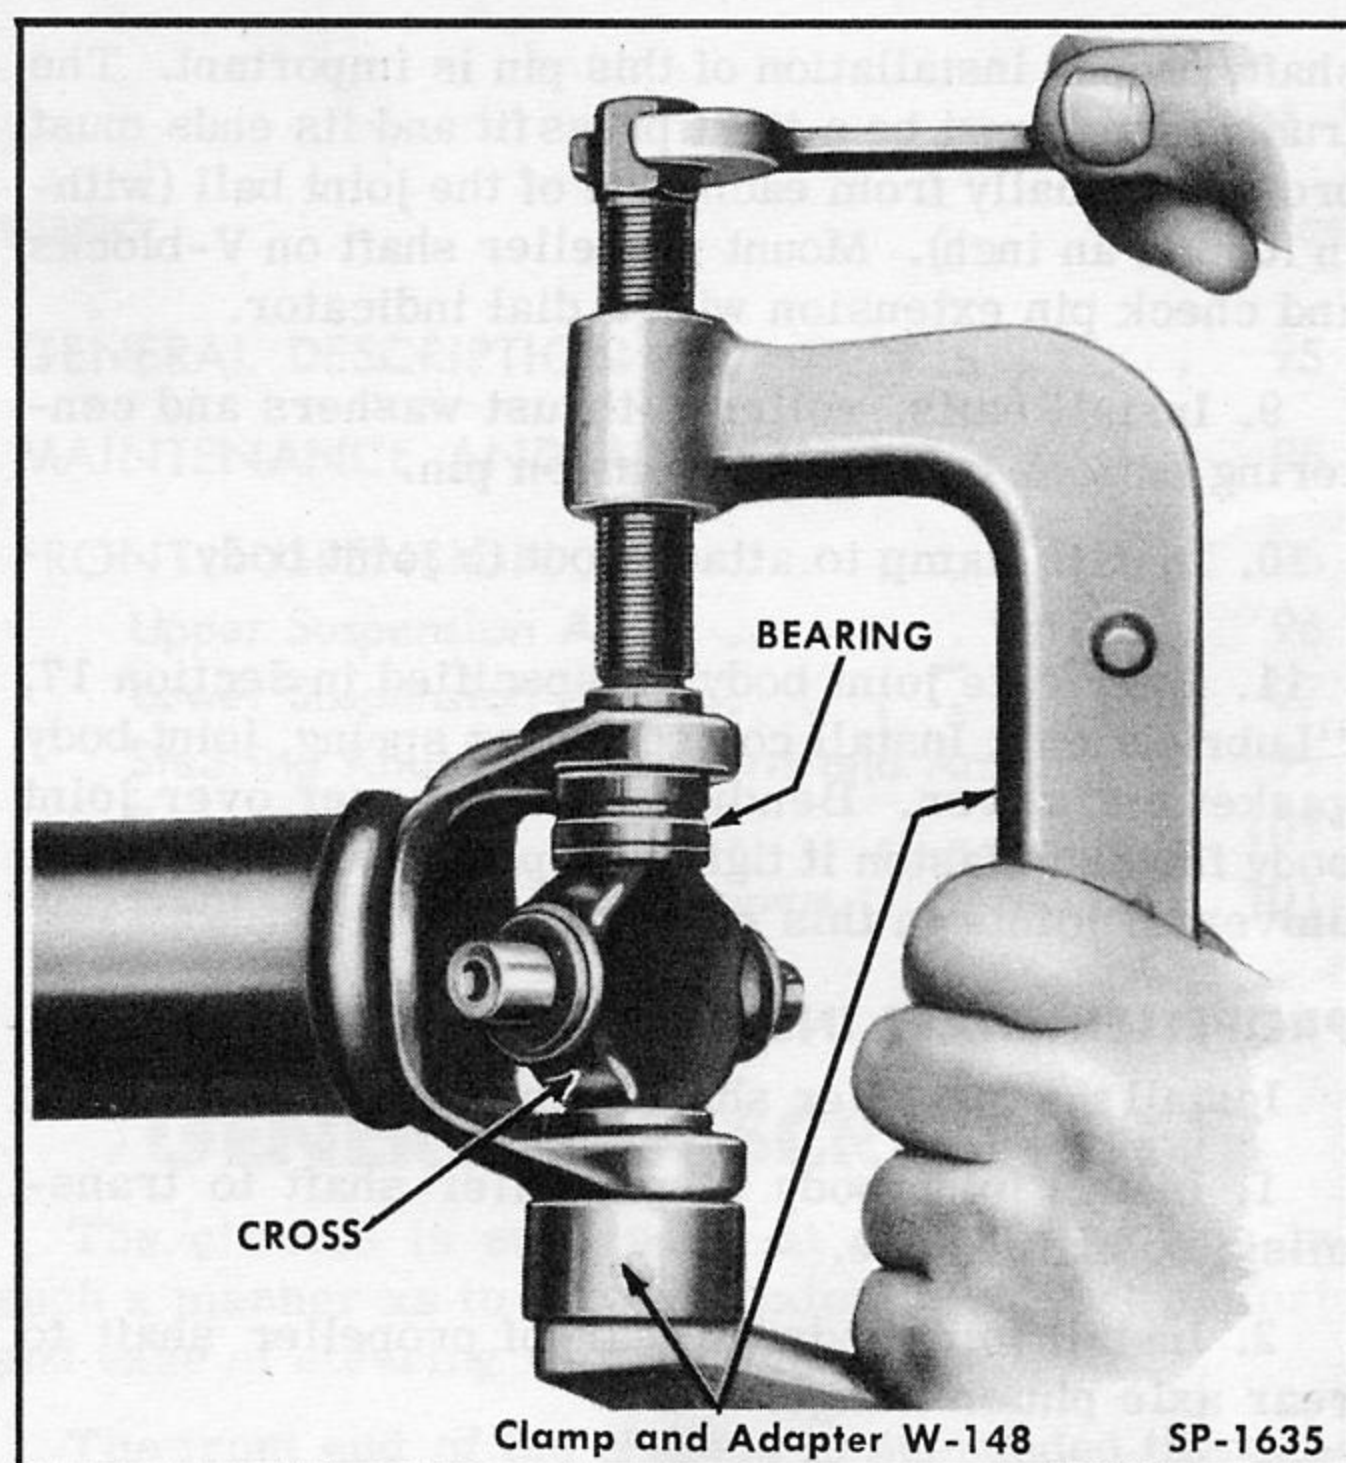

Fig. 154—Removing Cross Type Universal Joint Bearing
1. Remove snap rings and remove rear cross from yoke by pressing bearing retainers out of yoke using Universal Joint Bearing Clamp and Adapter W-148 as shown in Fig. 154.